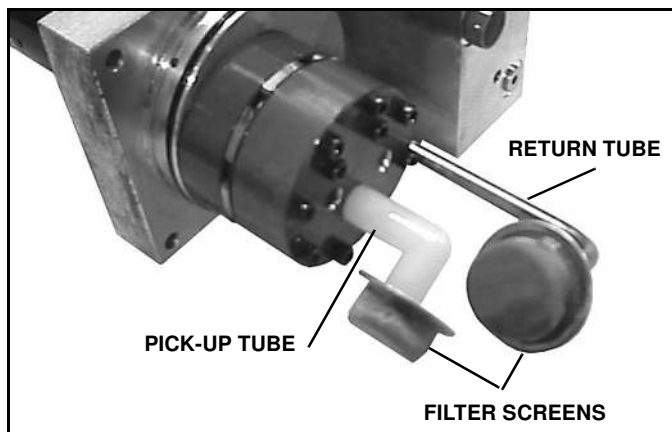

Figure 1-35
8. Loosen the band clamp, which holds the reservoir on the center section. Pull and twist the reservoir until it separates from the center section. Place a container under the power unit to catch spilled oil. Note the position of the reservoir oil pick-up tube and be sure the tube is in the same position when the filter is removed and installed. (See Figure 1-35)
10. Pull the filter screens off the return and suction tubes (hold it by the metal cover, not by the screen) and clean with a suitable solvent. Blow dry with low pressure compressed air from the inside. (See Figure 1-35)